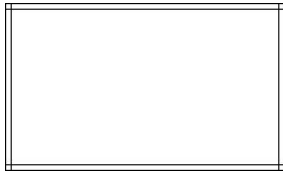

FIGURE 4.5 : All four lines are now offset 6" to the inside.
6. Select another outside wall line and click in a blank area on the inside again. Continue doing this until you have offset all four outside wall lines to the inside at the set distance of 6". Then press `↵` to end the Offset command (see Figure 4.5). Now you will clean up the corners with the Fillet command.